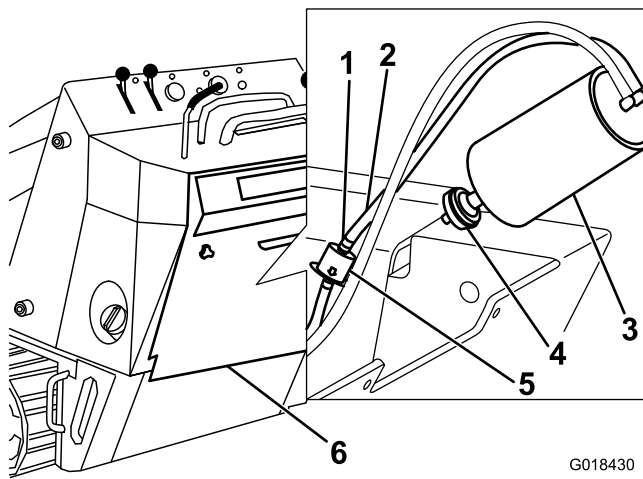

Figure 36
3. Remove and discard the air filter (Figure 36).
4. Install a new filter onto the carbon canister (Figure 36).
3. Move the spring-type hose clamps on both sides of the carbon-canister purge-line filter away from the filter (Figure 36).
4. Remove and discard the purge-line filter (Figure 36).
5. Install a new filter into the hose with the arrow on the filter pointing away from the carbon canister and secure it with the hose clamps (Figure 36).